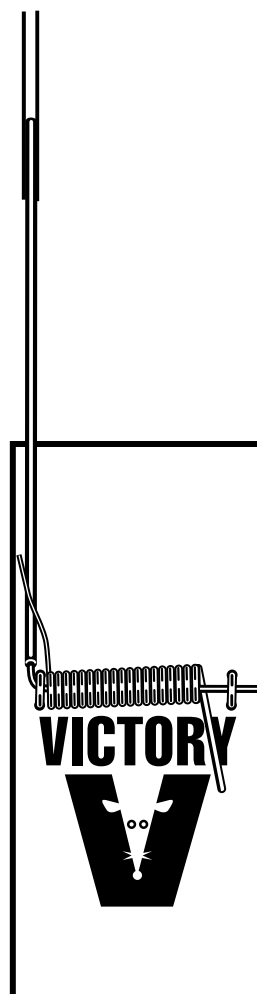

Figure 13e – Slide
2. Locate the hollow tube. Slide it onto the straightened bow (Figure 13e) to make the lever arm. Make sure the spring arm of the mousetrap rests on *top* of the lever arm (tube) as shown in Figure 13e.